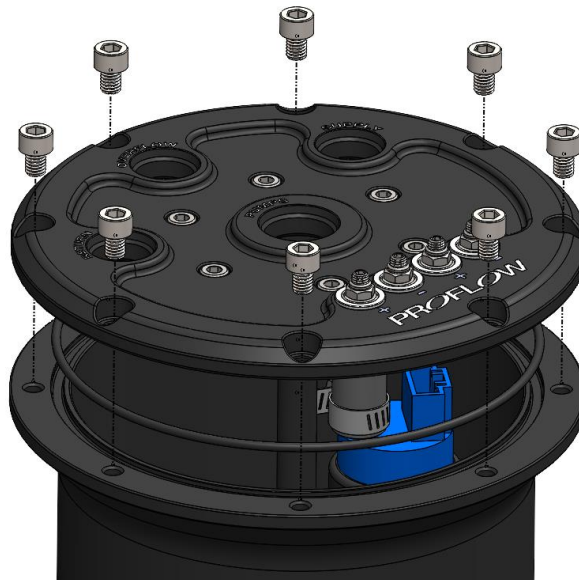

Figure 10
9. Place the fuel pump hanger assembly into the surge tank as shown in figure 10 and ensure the o-ring is seated correctly in its groove before fastening the top plate onto the tank. Torque each perimeter bolt in a cross pattern to approximately 5 Nm.